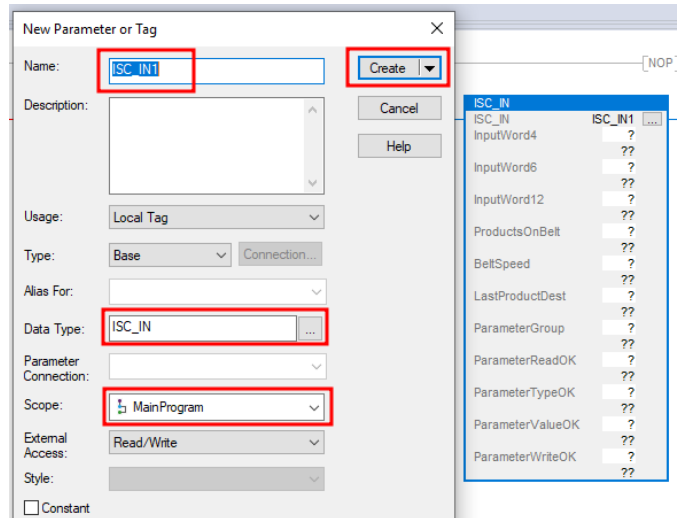

Figure 36: New Data Type (ex. ISC_In) for AOI
22. Create a data type for the AOI to store data. Double click in the “AOI_ISC_CAM_v2_INPUTS” field and type a unique data type name, then right click on the name, and select “New xyz.” The “Data Type” shall be AOI_ISC_CAM_v2_INPUTS to match the AOI. Make sure the scope of the program is correct and click create, Figure 36.
27. Create a data type for the AOI to store data. Double click in the "AOI_ISC_CAM_v2_OUTPUTS" field and type a unique data type name, then right click on the name, and select "New xyz." The "Data Type" shall be AOI_ISC_CAM_v2_OUTPUTS to match the AOI. Make sure the scope of the program is correct and click create, like Figure 36.